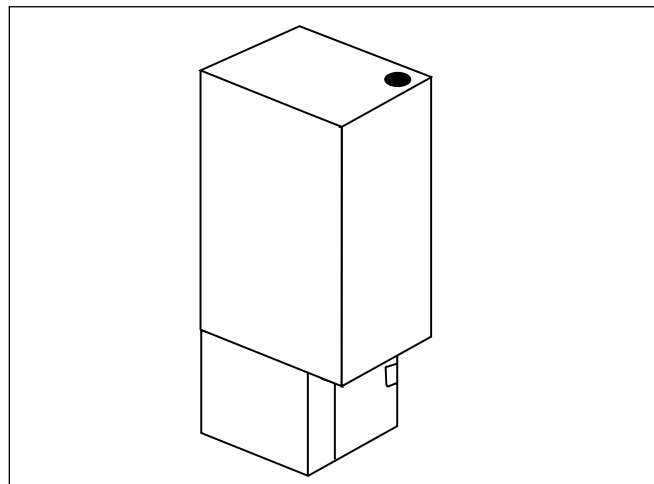

Figure 3. Downflow Installation
B. Downflow Furnaces (See Figure 3)